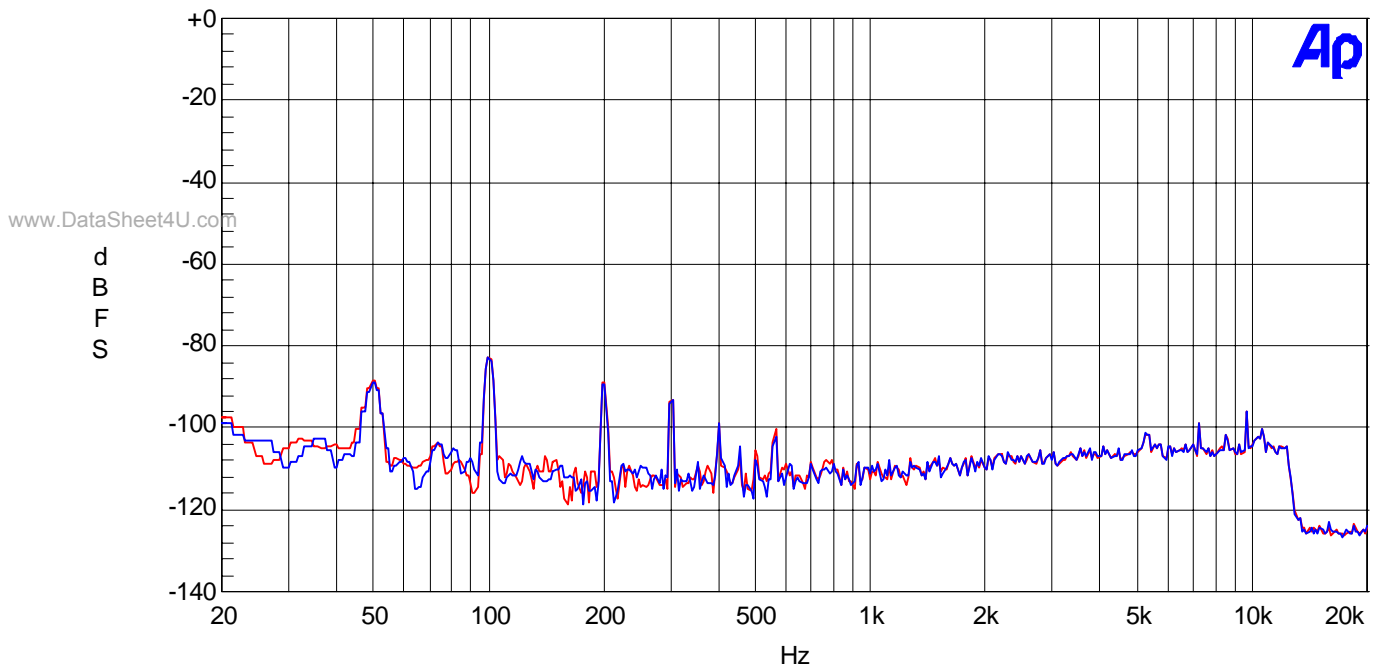

Figure 8. FFT Plot (no input)
- Figure 8. FFT Plot (no input)